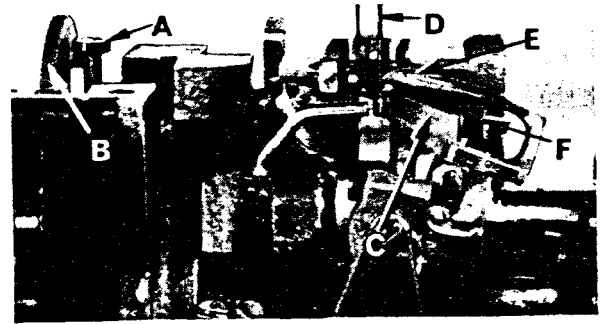

Fig. 10
The differential feed ratio is set by loosening screw (A, Fig. 10) and moving the selector slide (B) to the desired position. The screw and selector slide are accessible through the top of the cloth plate on the left side. Moving the differential feed selector slide (B) toward the front increases the amount of differential and moving it back decreases the differential feed. Retighten screw.
Set the rear needle guard (C, Fig. 10) horizontally so that it does not quite contact the rear of the right needle (D) when at its most forward point of travel. A clearance of .005 inch (.127 mm) is permissible. It should be set as low as possible, yet have its vertical face approach within about $3/64$ inch (1.19 mm) of the needle, until the point of the looper (E), moving to the left, is even with the needle. To move needle guard merely loosen screw (F), move needle guard as required, and retighten screw. NOTE: Adjustment of the rear needle guard will necessitate a check of the main feed dog height.